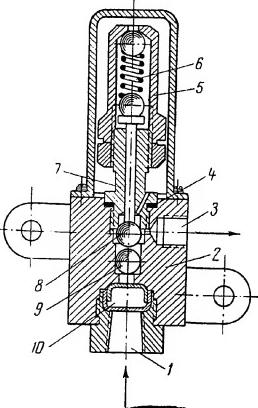

Fig. 29. Pressure regulator
**Pressure regulator** (Fig. 29) serves to connect or disconnect the discharging device of the compressor and to maintain a constant pressure in the system. The regulator is mounted under the hood, on the dash panel. The regulator consists of a two-ball valve and a spring.